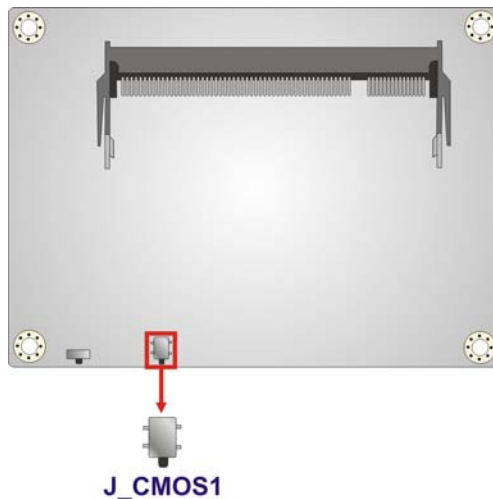

Figure 3-7: Clear CMOS Button Location
- CN Location: See **Figure 3-7**
The location of the clear CMOS button is shown in **Figure 3-7**.